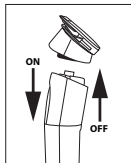

Fig. 1
3. To attach the finishing trimmer attachment align the driving pin with the centre of the base of finishing trimmer attachment (Fig. 1). Then, holding the finishing trimmer attachment, push the head down onto the power handle until you hear a click.